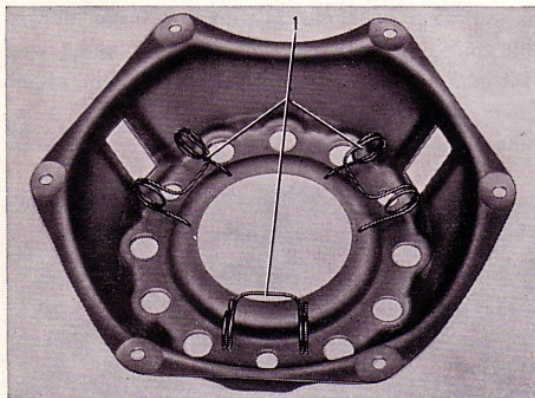

Fig. 24. Fitting the springs
5. Make sure that the three springs (1, Fig. 24) for the clutch levers are in position and place the clutch cover casing over the six pressure springs in the position which has been already marked-up, see Fig. 15.
6. Place on the 3-point support, arms, thrust rods and wrench handle. Press down the clutch cover casing until it makes contact with the bottom plate all round. Place the adjusting nuts on the eyebolts (32) and screw them on to full nut width. The clutch is now ready for adjusting.